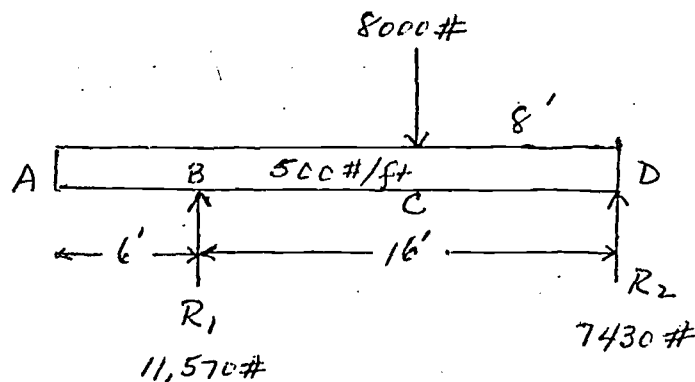

FIGURE 2
12. Draw the shear diagram for the beam of Figure 2.